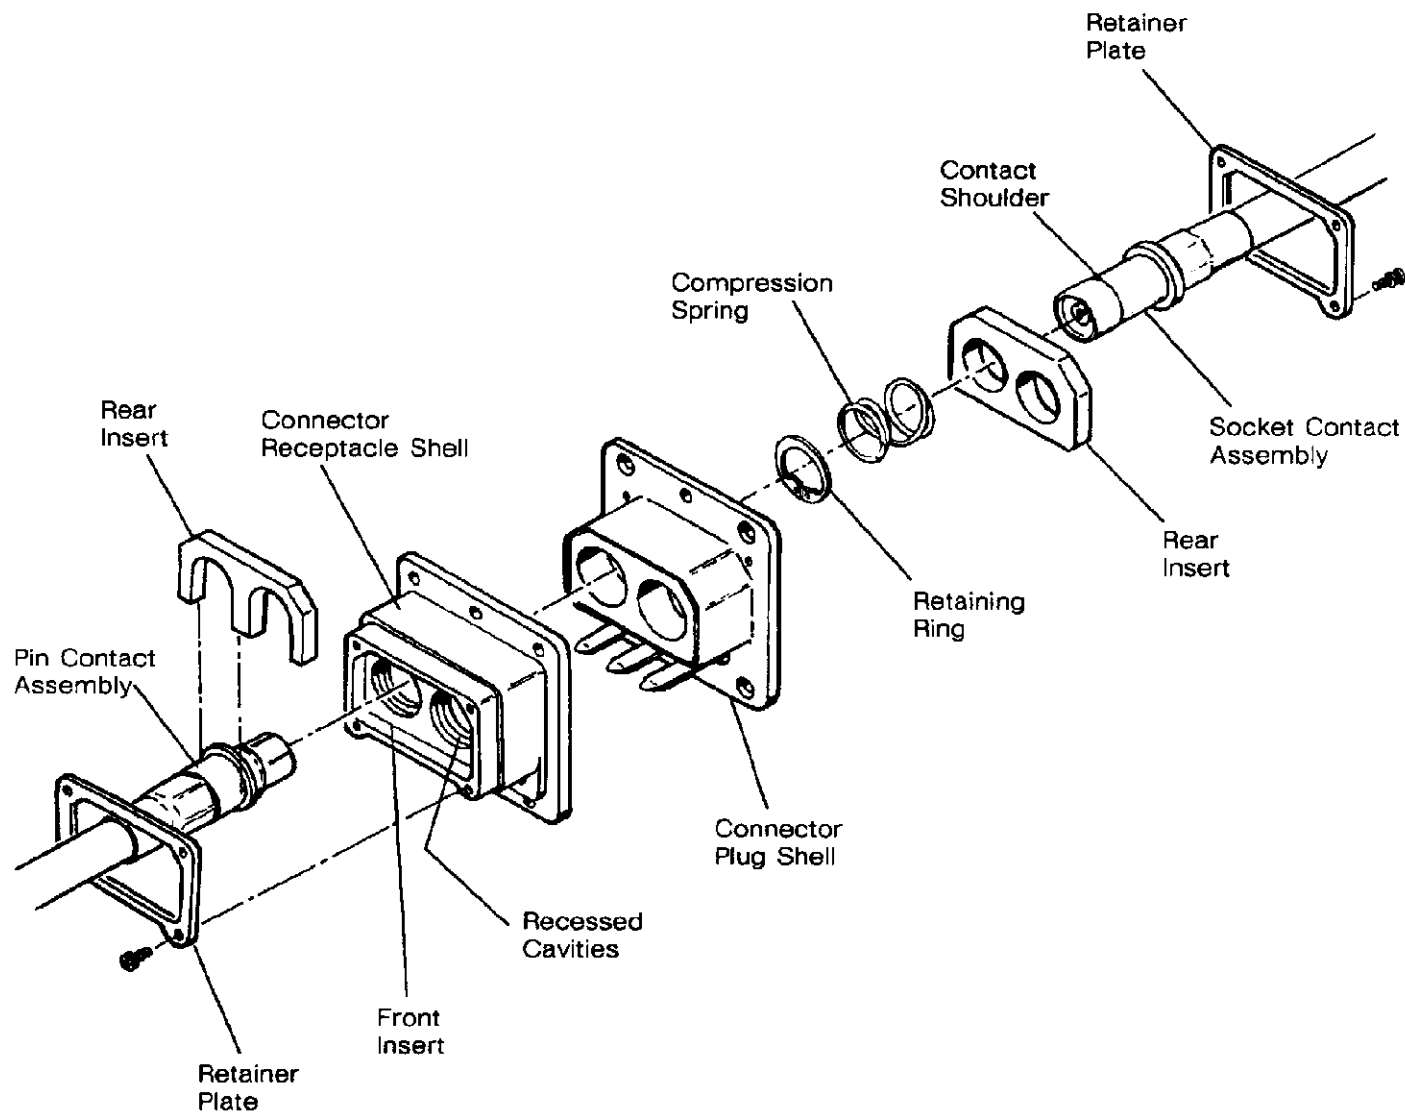

Fig. 6. Installation in ARINC 404 Connector
3.3. Installing Contact Assemblies in ARINC 404 Connectors (See Figure 6)